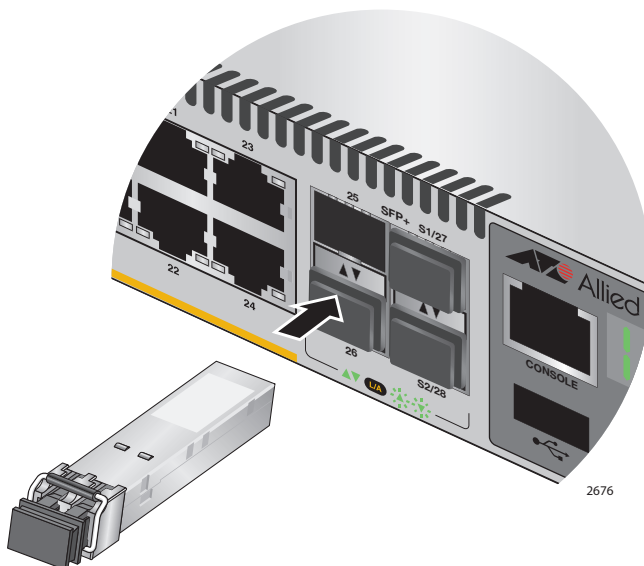

Figure 65. Installing an SFP or SFP+ Transceiver
4. Slide the transceiver into the slot until it clicks into place, as shown in Figure 65 on page 114.